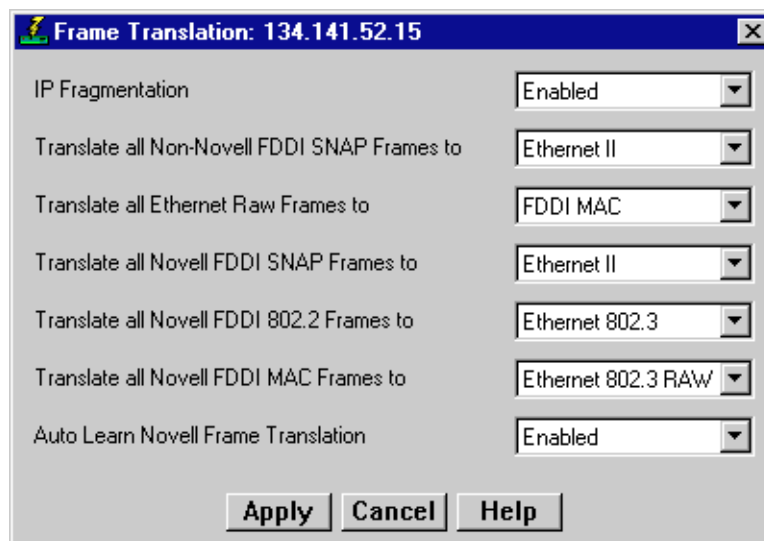

Figure 5-8. The Frame Translation Window
To access the FDDI Translation window (Figure 5-8):
2. Select **Frame Translation**; the Frame Translation window, as shown in Figure 5-8, will appear.